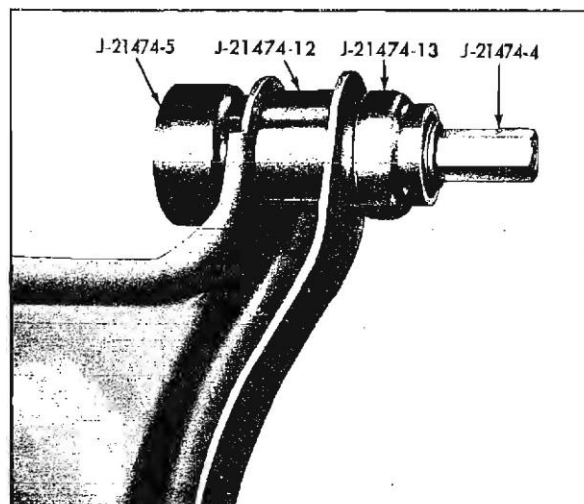

Fig. 3-19 Installing Rear Bushing in Front Lower Control Arm
4. Install new bushing in control arm, using components of tool J-21474 as shown in Fig. 3-19.